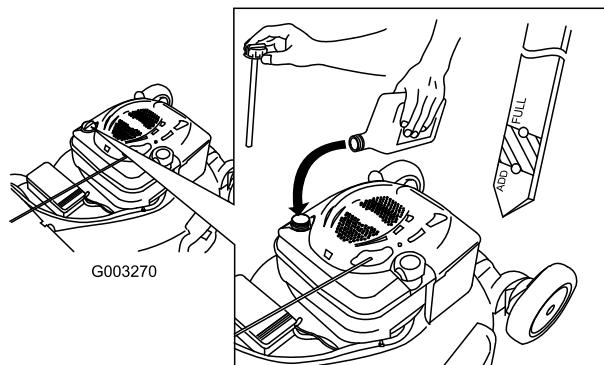

Figure 32
- Slowly pour oil into the oil fill tube until the oil level reaches the Full line on the dipstick (Figure 32). **Do not overfill.** (Max. fill: 20 oz. (0.59 l), type: SAE 30W detergent oil with an API service classification of SF, SG, SH, SJ, SL, or higher.)